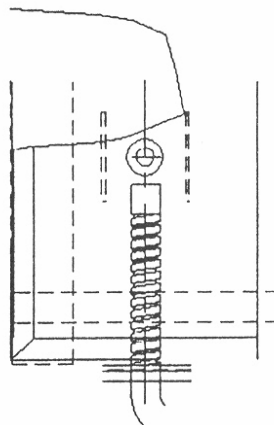

Figure 3.
Step 6. Place the reserve ripcord housing in between the backpad & the ripcord pin protection door. Tack the housing down to the backpad with the 5 cord (as it was). (see Figure 3)